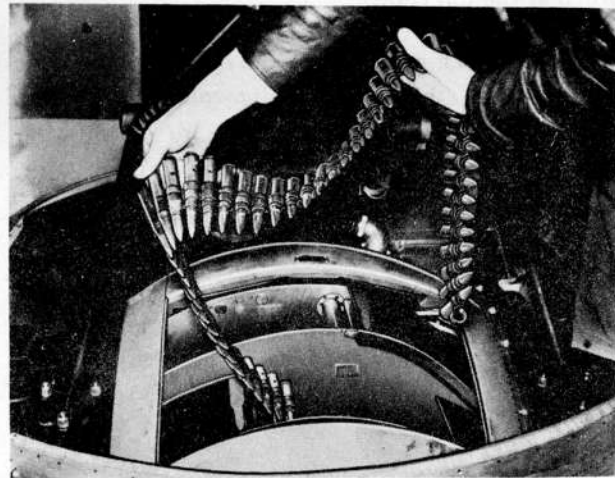

Figure 66—Loading Ball Turret Ammunition Boxes
a. Load ammunition boxes. (See figure 66.) Enter turret.